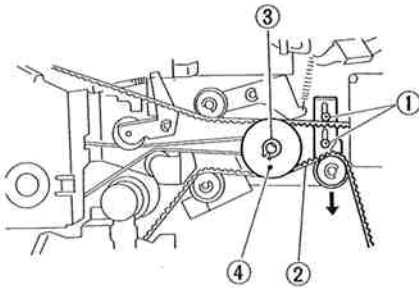

Figure 4-219
- 2) Loosen the two mounting screws ① to decrease the tension of the drive belt ②; see Figure 4-219.
- 3) Remove the grip ring ③, and detach the gear ④.